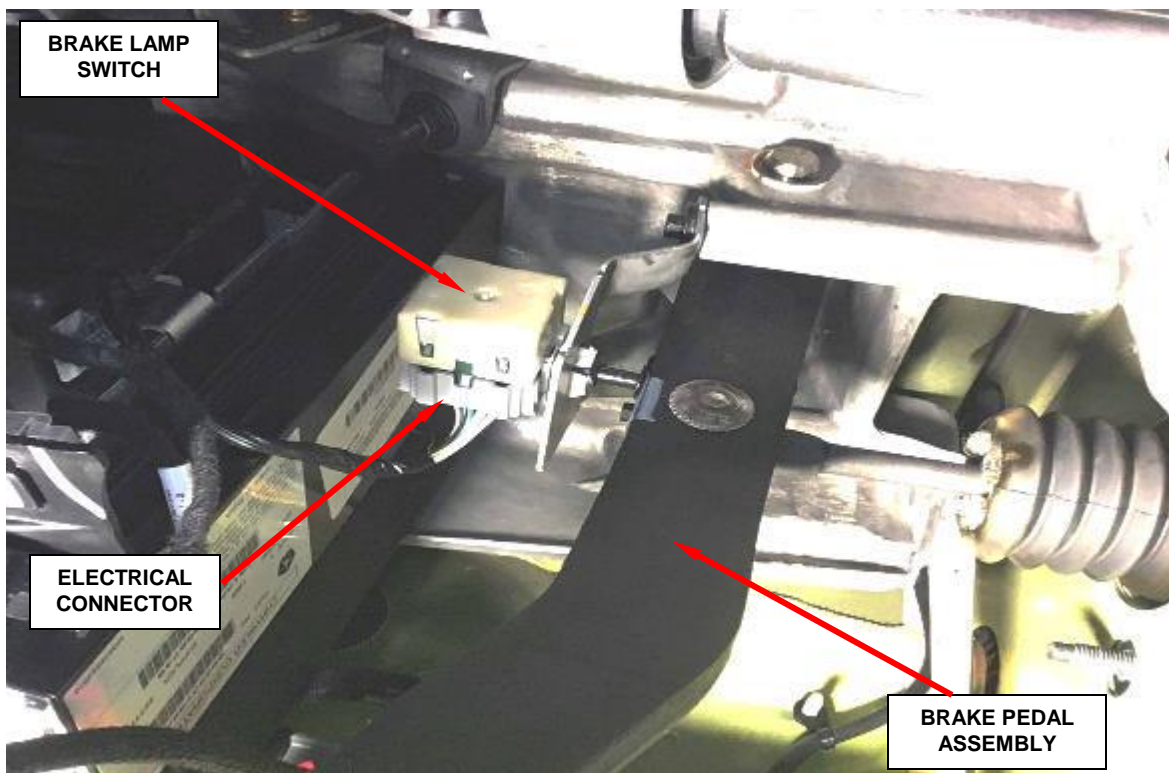

Figure 1 - JK Brake Lamp Switch Location
2. Locate the brake lamp switch below the steering column (Figures 1 and 2).
7. Disconnect the body wire harness electrical connector from the brake lamp switch (Figures 1 and 2).